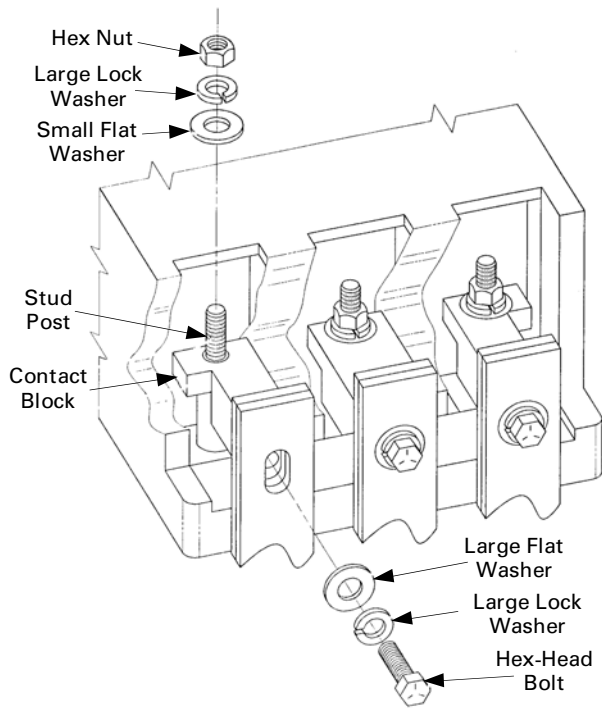

Figure 6. Securing the contact block to the studs and straps.
- b. **TKL4V and TK4V circuit breakers used as main devices (lugs only on the ON side of the breaker).** Place the OFF side of the circuit breaker over the stud posts, as shown in Figure 4. Fasten the breaker to the module with the round-head screws, small lock washers, and flat washers provided. Place the contact blocks on the stud posts and secure with hex nuts, small flat washers, and large lock washers. Secure the straps to the contact blocks with hex-head bolts, large flat washers, and large lock washers, as shown in Figure 6. Tighten the screws to 35–50 in-lb and the nuts and bolts to 200–250 in-lb.
- c. **SKHA, SKLA, and SKPA circuit breakers used as main devices (lugs only on the ON side of the breaker).** Place the contact blocks [8] on the OFF side of the circuit breaker terminal pads and then place the OFF side of the breaker over the stud posts, as shown in Figure 4. Fasten the breaker to the module with the round-head screws, small lock washers, and flat washers provided. Secure the contact blocks with hex nuts, small flat washers, and large lock washers. Secure the straps to the contact blocks with hex-head bolts, large flat washers, and large lock washers, as shown in Figure 6. Tighten the screws to 35–50 in-lb and the nuts and bolts to 200–250 in-lb.